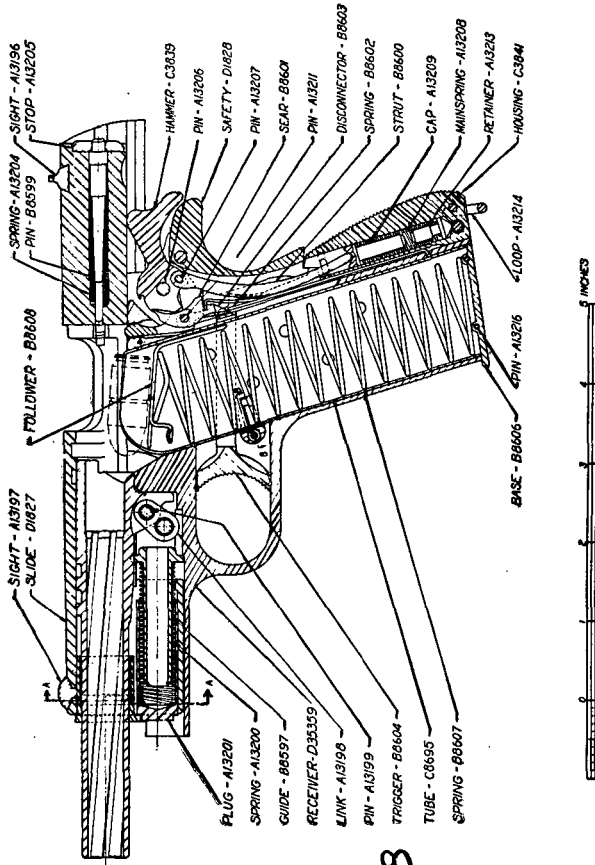

FIGURE 3.—Automatic pistol, caliber .45, M1911A1, sectional views.
■ 3. DISASSEMBLING (see fig. 3).—*a.* Remove the magazine by pressing the magazine catch.
(Top of Fig. 3)